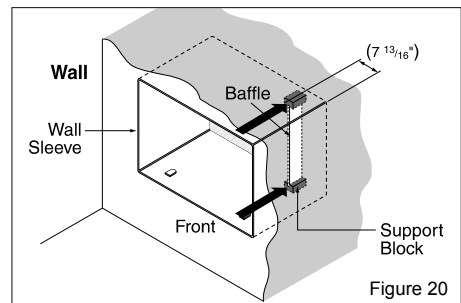

Figure 20
- 6** Remove the backing from the support blocks and attach them to the inside of the wall sleeve as shown FIG 20. Slide the baffle into slots of the support blocks